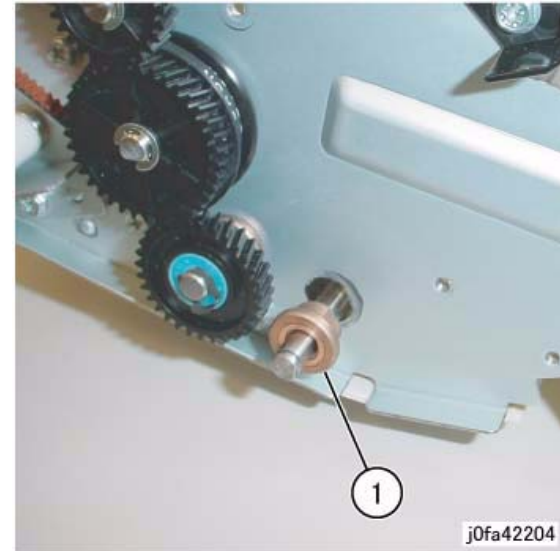

Figure 4 Removing the Bearing (j0fa42204)
6. Remove the rear Bearing. (Figure 4)